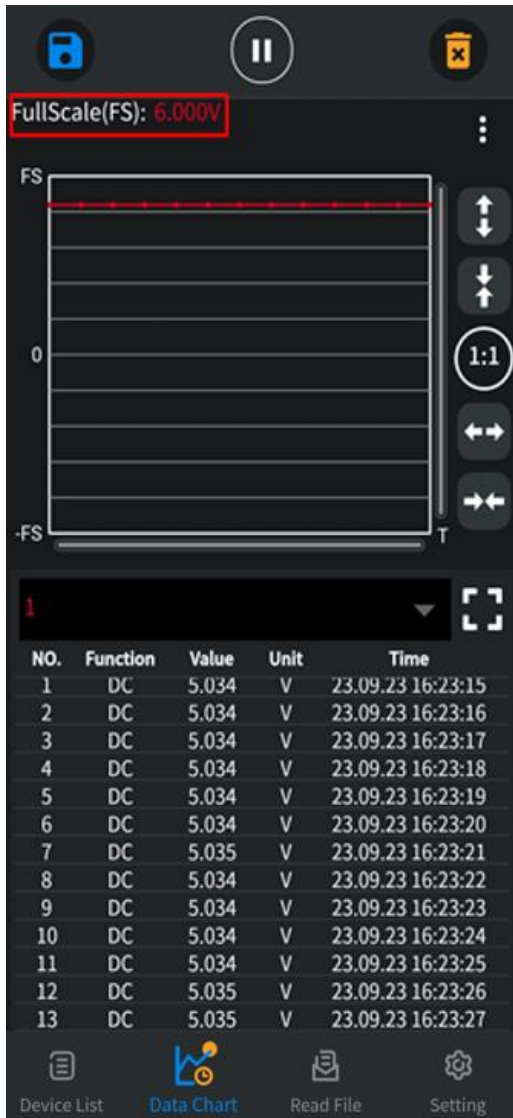

Figure 1
- Figure 1: The reading is 5.034V,the decimal point comes before the second place in the reading. Adding a decimal to the second digit of 6000 gives a full scale of 6.000V.